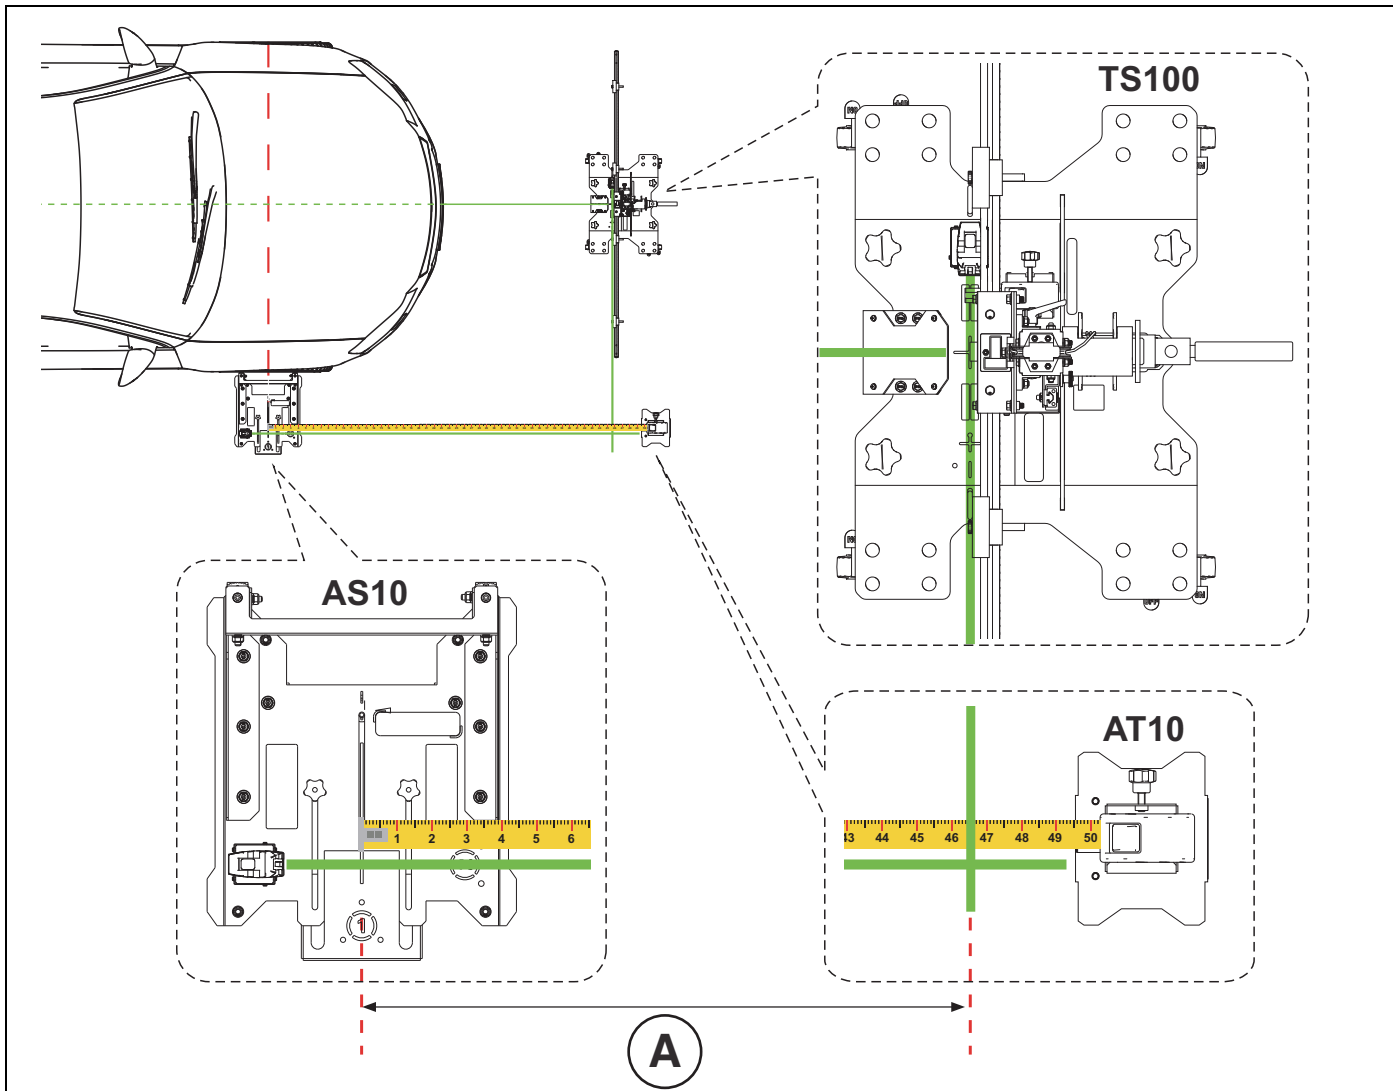

Figure 4-13
1. Set the laser assembly on the AS10 alignment fixture in position “2” (laser pointing forward) (Figure 4-13).
2. Pull the tape rule forward from the AS10 fixture centerline notch (parallel to laser) to just past the target distance “A” value (Figure 4-13). Place the tape rule on the AT10 stand.
3. Set a laser assembly on the TS100 target stand, so the laser intersects with the tape rule (Figure 4-13).
4. Move the TS100 target stand into a position that is centered and square with the vehicle and where its laser intersects with the “A” target distance value on the tape rule (Figure 4-13).